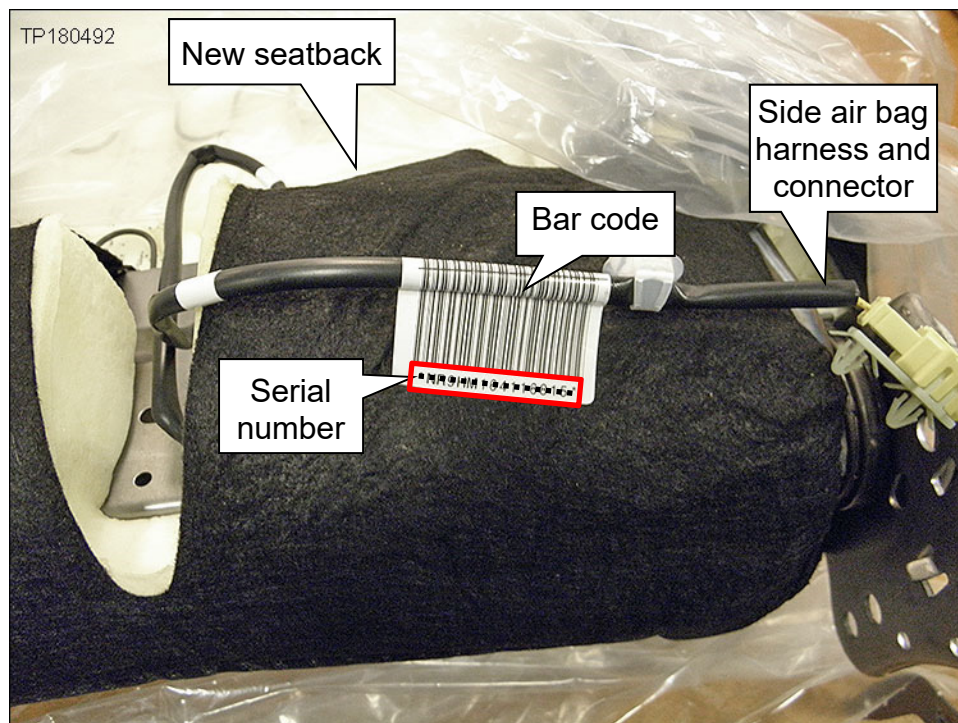

Figure 7
- Access the bar code label on the module harness (see Figure 7).